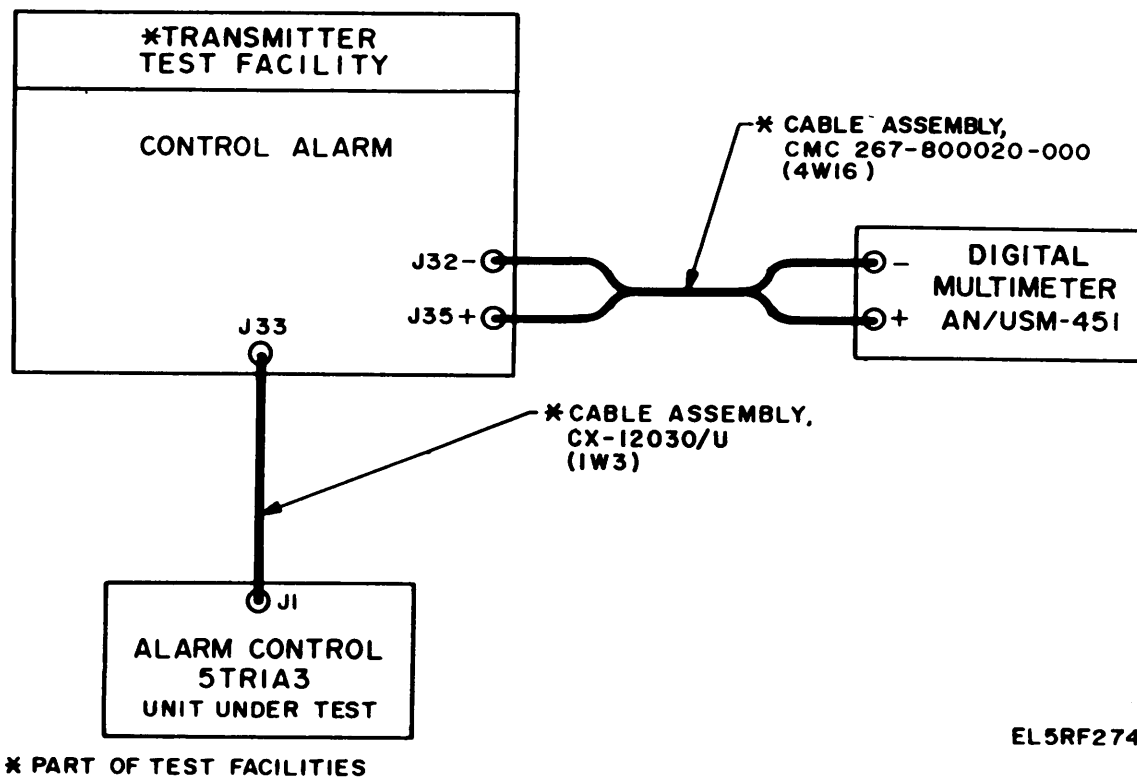

Figure 3-99. Alarm Control 5TR1A3, Test Setup.
(1) Connect the test equipment as shown in figure 3-99, but do not connect the unit under test to the test facility.
(2) Set the digital multimeter to the 2-volt scale. Set test facility switches S1 and S25 to their ON positions.
(3) Adjust the test facility SET INPUT control to give a 0.5 V (500 mV) indication on the digital multimeter.
(4) Connect the unit under test to the test facility at J33 as shown in figure 3-99. The digital multimeter should indicate at least 460 mV.